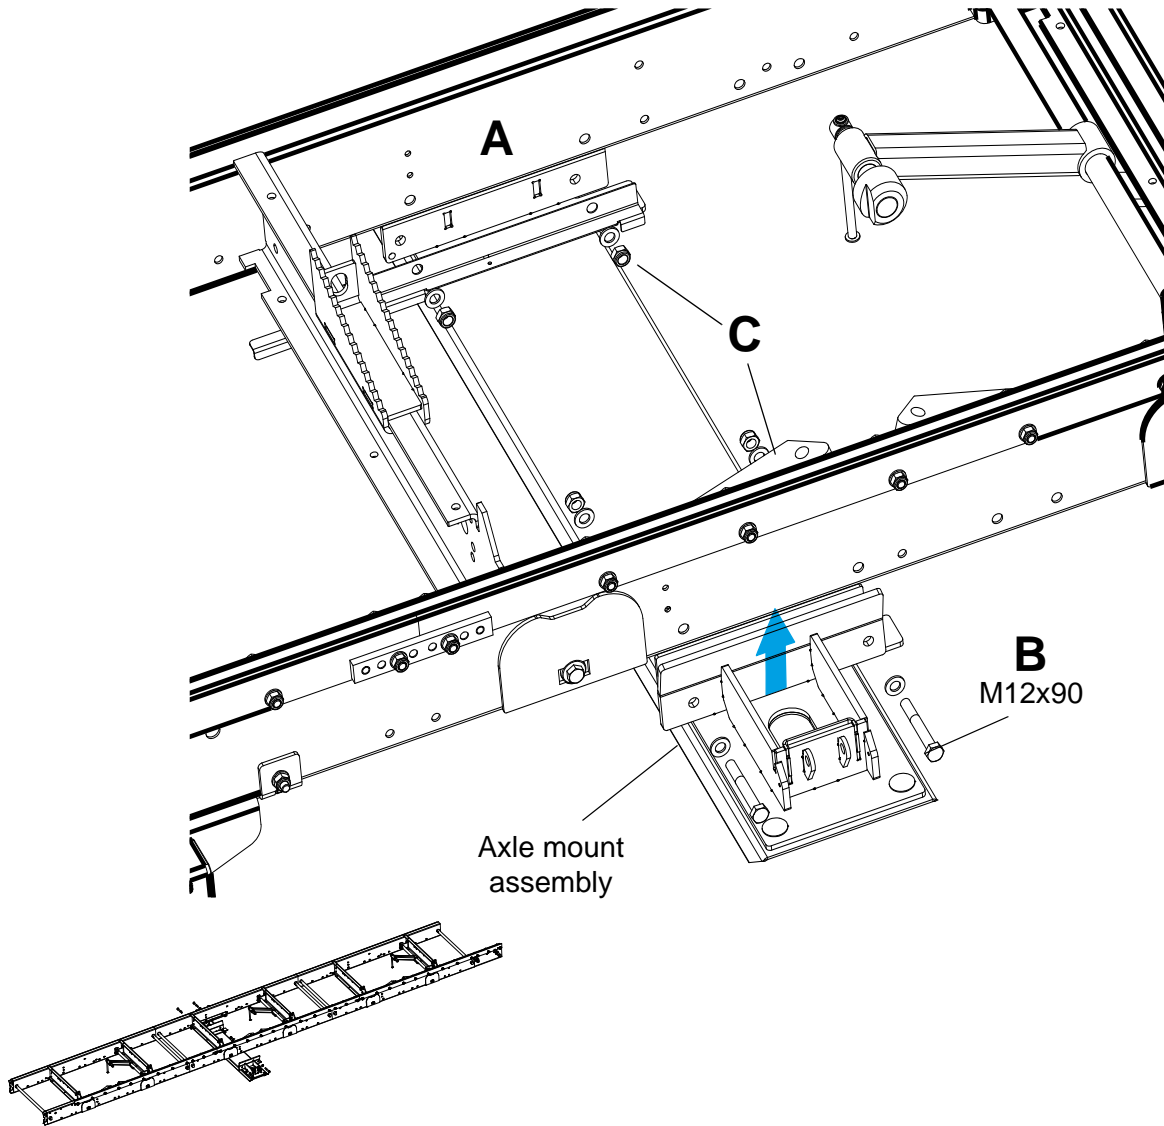

FIG. 2-6
See figure 2-6. Place the axle mount assembly under the bed in its middle section (A). Align axle mount assembly holes with bed section holes. Use four M12x90 bolts (B), washers and hex nylon lock nuts (C) to bolt the axle mount assembly. Recommended torque used to tighten the bolts is 58 ft.-lbs (79 Nm). The nuts should be on the inner side.